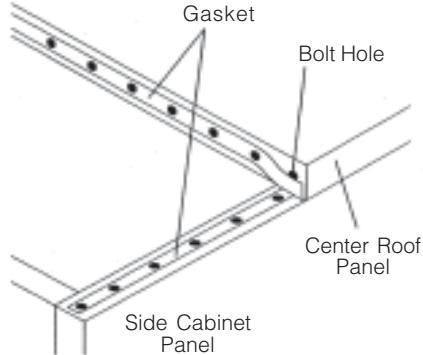

Figure 3-15. Install Gasket on Center Roof Panel
20. Install a continuous line of roof gasket along both sides of the center roof panel (see Figure 3-15). Start end of gasket along edge of roof panel, below first bolt hole. Bend gasket up and run gasket over center of the bolt holes. Before last bolt hole, bend gasket down and finish by running gasket along edge of roof panel, below last bolt hole. Using an alignment pin, punch bolt holes through the roof gasket.